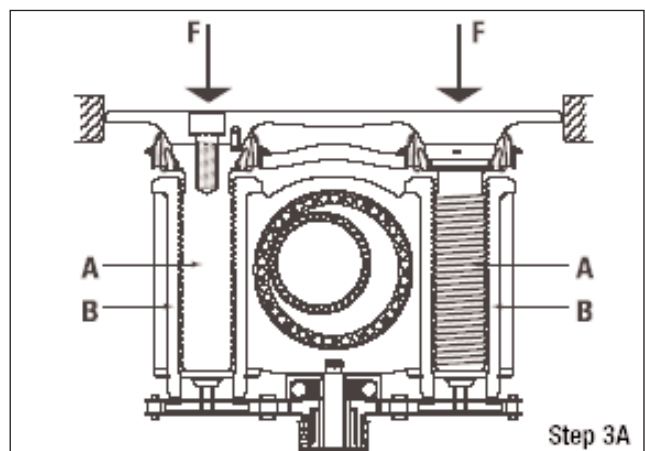

Fig 1.7
- h) Clamping force generates friction in the screw threads between the adjuster sleeves B and pistons A, and friction under the flanged head of the adjuster sleeves (Fig. 1.7).